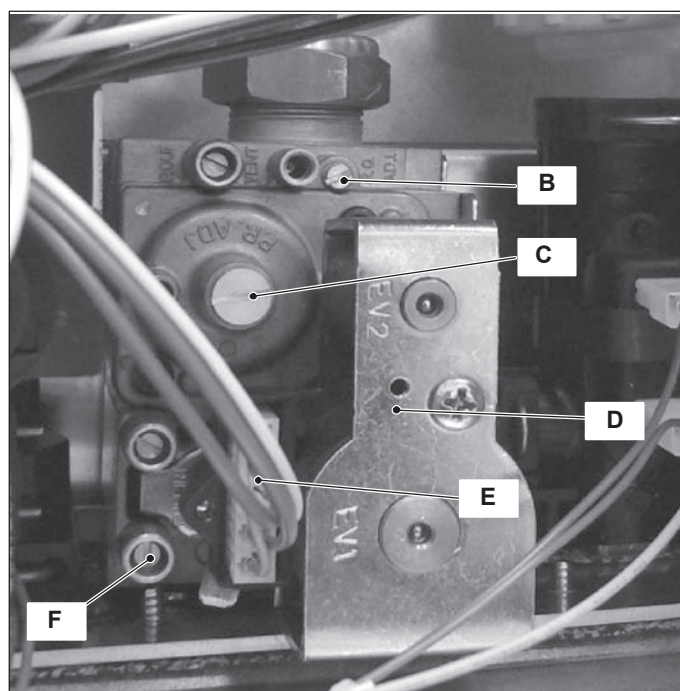

Figure 11.2
11.2 Description of the parts - (Figure 11.2)
- 3 Loosen the internal screw on the Inlet Pressure Test Point F (Figure 11.2) of the Gas valve and connect a pressure gauge using a suitable hose.
- 10 Disconnect the pressure gauge and close the Inlet Pressure Test Point F (Figure 11.2).
To adjust the CO₂ % value remove the brass plug by unscrewing it and rotate the Allen key screw ø 4mm (C - Figure 11.2) (by rotating it clockwise the CO₂ % increases).
To adjust the CO₂ % value rotate screw (B - Figure 11.2) (by rotating it clockwise the CO₂ % decreases).
32 After adjustment fit the protective brass plug (C - Figure 11.2).
- 2 Disconnect the electrical connector E (Figure 11.2).